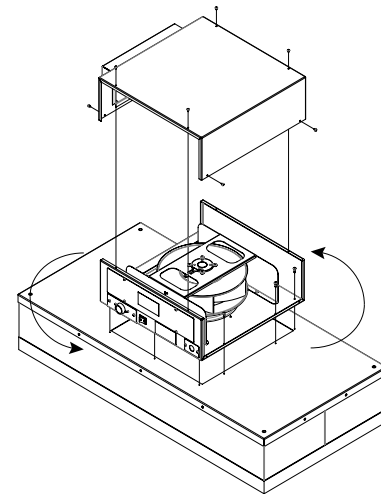
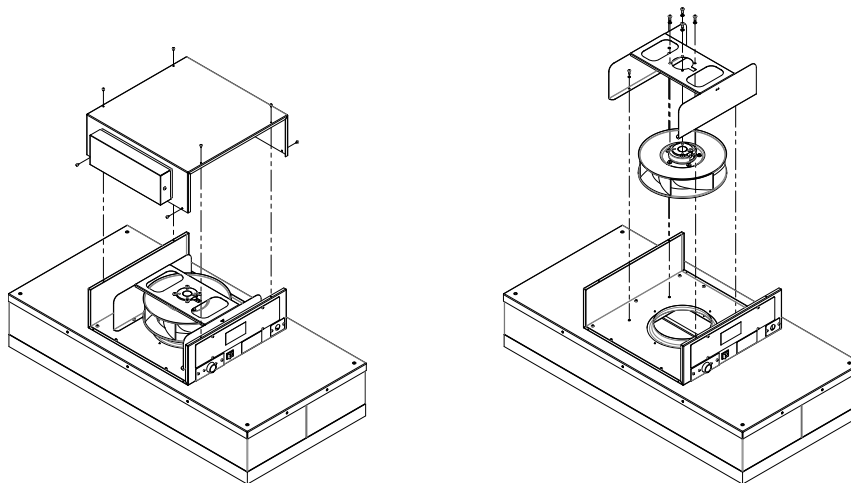

Figure 8: 90° Exhaust Direction Change
Figure 11: Motor Replacement
Step 3. Rotate the blower housing 90° in either direction. (See Figure 8.)
Step 4. Remove the screws to free the motor/blower cover. (See Figure 8.) If using power drivers, set the unit to a low torque setting to avoid stripping the sheet metal screws (See Figure 11.)